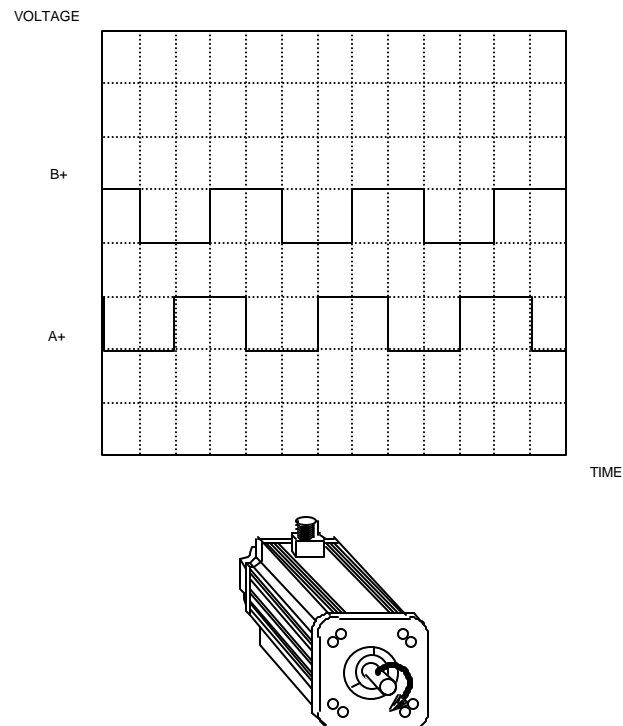

Fig. 2-4: Mx4 cnC++ Incremental Encoder Signals Polarity ... Clockwise Shaft Rotation Yields Negative Velocity
2. The incremental encoder signals (A+, A-, B+, B-) should follow the convention of Fig. 2-4. That is, when the motor shaft is manually turned in the clockwise direction, a negative velocity should result.